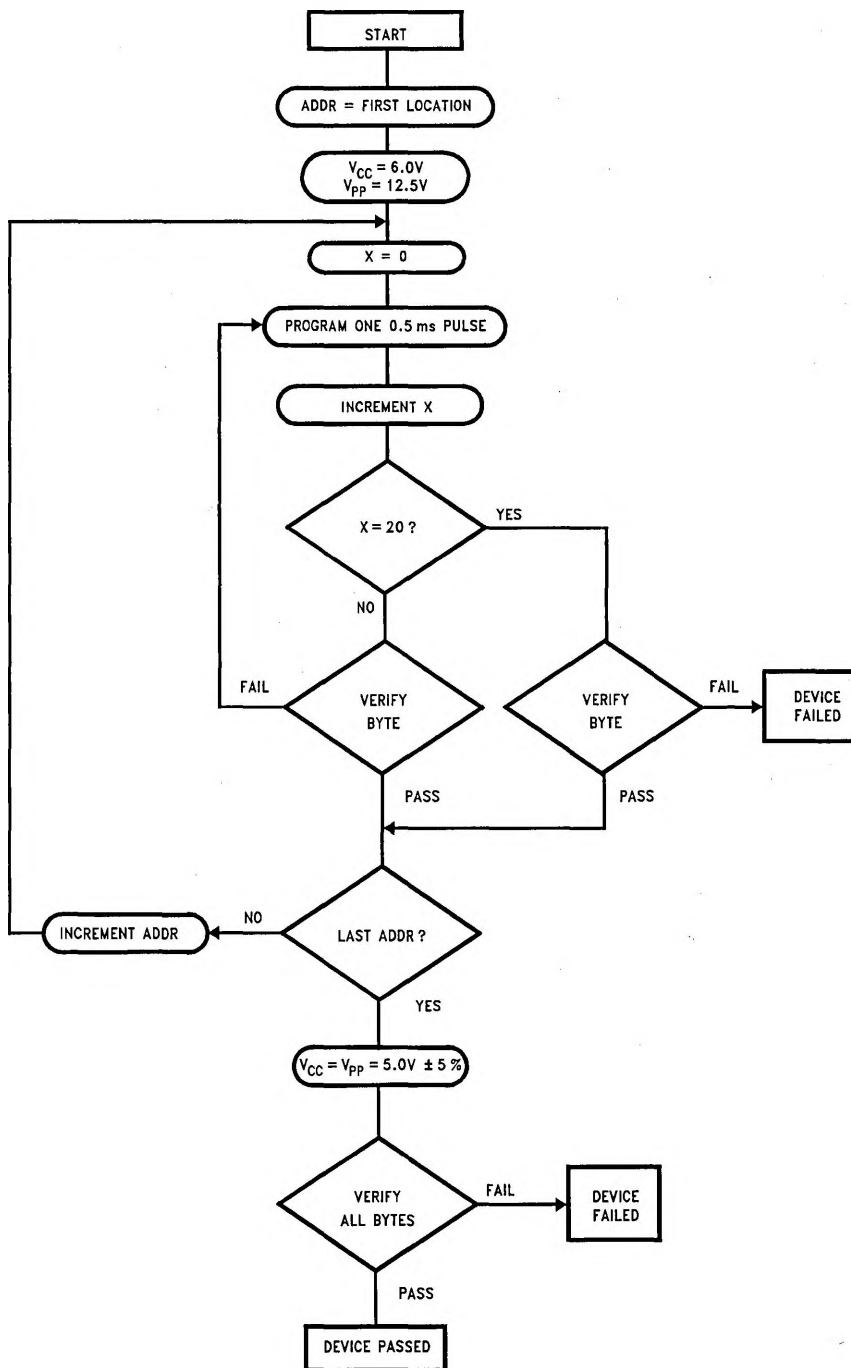

FIGURE 2
**Note:** Some programmer manufacturers, due to equipment limitation, may offer interactive program Algorithm (shown in Figure 2).